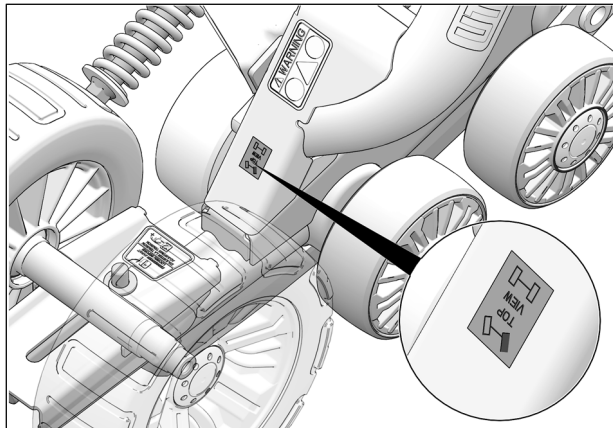

Fig. 2
2. Identify the mounting position of each Track System undercarriage unit; the position is indicated on a small sticker affixed on the undercarriage frame. See Fig. 2.